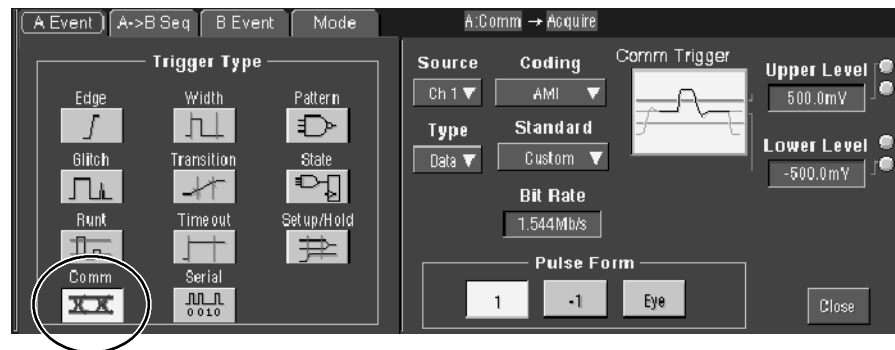

Figure 2: Communication signal trigger functions
3. Touch **Comm** in Trigger Type. The instrument displays the communication signal trigger functions, as shown in Figure 2.